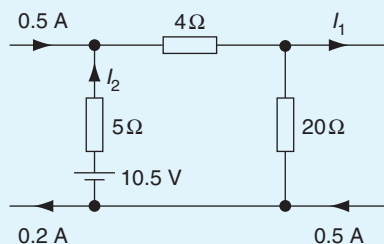

Figure 13.13
3. Calculate the currents I_1 and I_2 in Fig. 13.13.